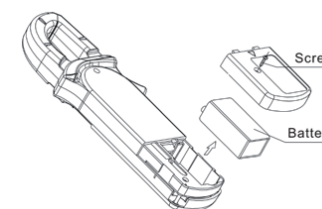

Figure 9
B. Replacing the Battery (See Figure 9)**Warning**